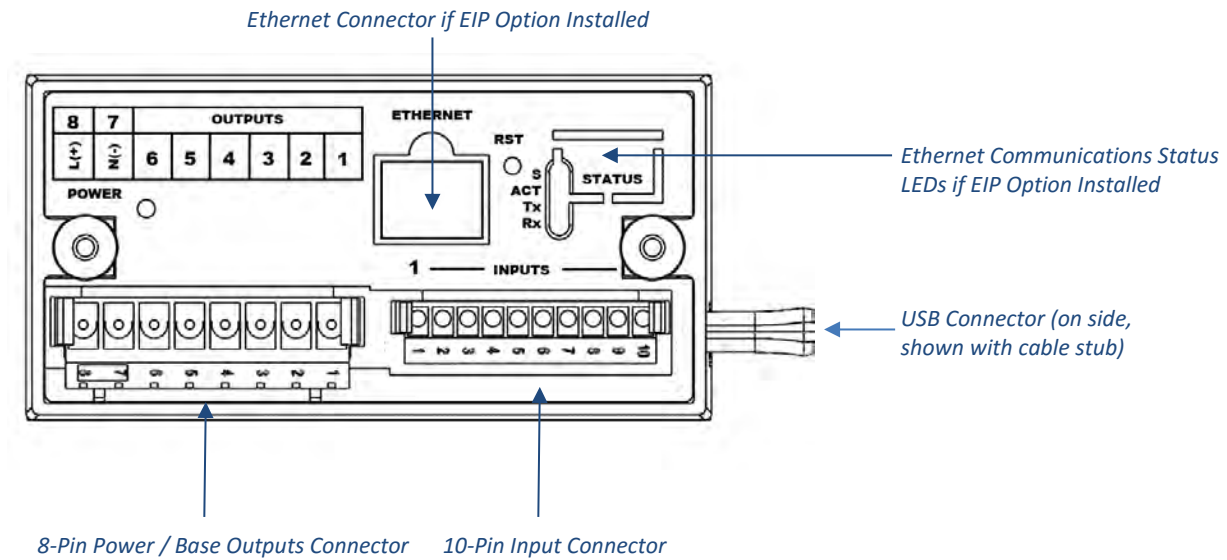

Figure 1 – CN8Pt, CN8Dpt and CN8Ept Models: Back Panel Connections (No Isolated Output Expansion Board Installed)
- Figure 1 – CN8Pt, CN8DPt and CN8EPt Models: Back Panel Connections